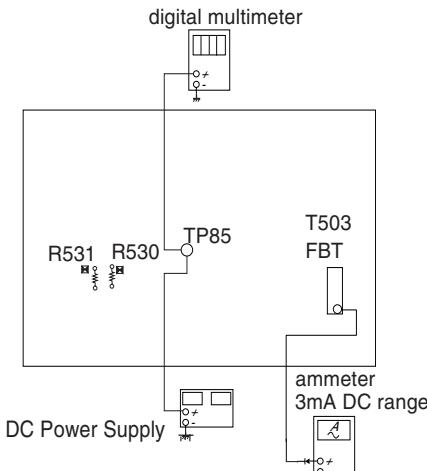

Figure 1
1. Connect the current meter between Pin 11 of the FBT (T503) and the PWB land where Pin 11 would normally attach. (See Figure 1).
4. Connect the digital voltmeter and the DC power supply to TP85 and ground. (See Figure 1).